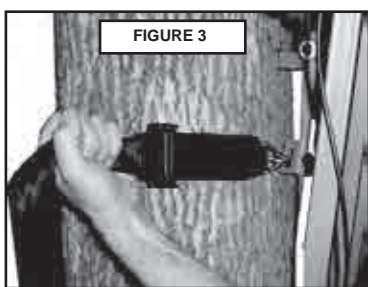

FIGURE 3
**STEP 3:** Pull the excess strap to secure the stand to the tree, as shown in Fig. 3. The stand should be tight to the tree as shown in Fig. 1.